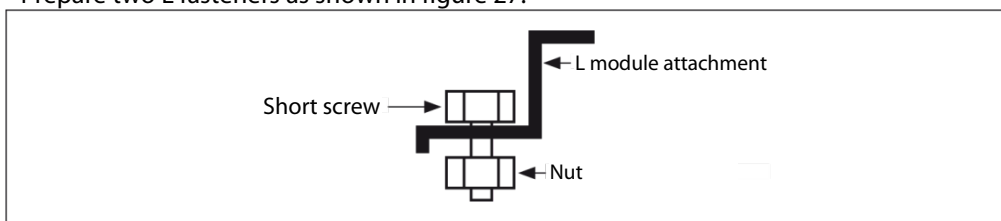

Figure 27
- Prepare two L fasteners as shown in figure 27.